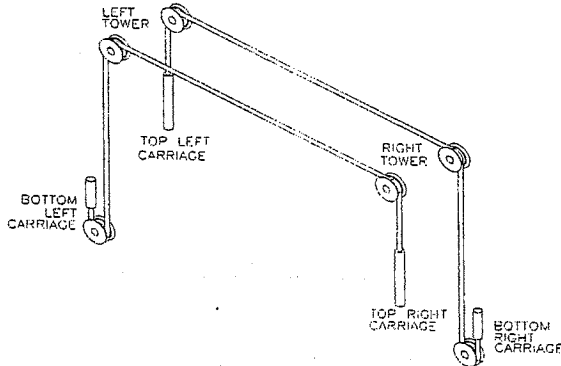

Figure 6a
2. Remove equalizing cables from the accessory kit box, and then locate the (8) $\frac{1}{2}$ "-13UNC nuts from a polybag in the hardware kit box.
3. Equalizing cables are to be routed as shown in Fig. 6a. Using the first cable, insert the short threaded stud through the $\frac{9}{16}$ " dia. hole at the bottom of the carriage, and feed upwards until the stud comes through the top of the carriage. Place a $\frac{1}{2}$ "-13UNC nut at the center of the stud, and then **firmly tighten** a second nut up against it using two wrenches. Pull the cable back down through the bottom of the carriage.
4. At the bottom of the column, remove the hitch pin, pulley pin and pulley from the baseplate (Fig. 6c). Route equalizing cable around pulley and reassemble the pulley to the baseplate. **IMPORTANT - Hitch pin must be installed securely.** Then route the cable up through the carriage, around the pulley at the top of the column, across the crossmember, around the pulley at the top of the other column and then down (Fig 6a). Insert the threaded stud into the $\frac{9}{16}$ " Dia. hole in the top of the other carriage.